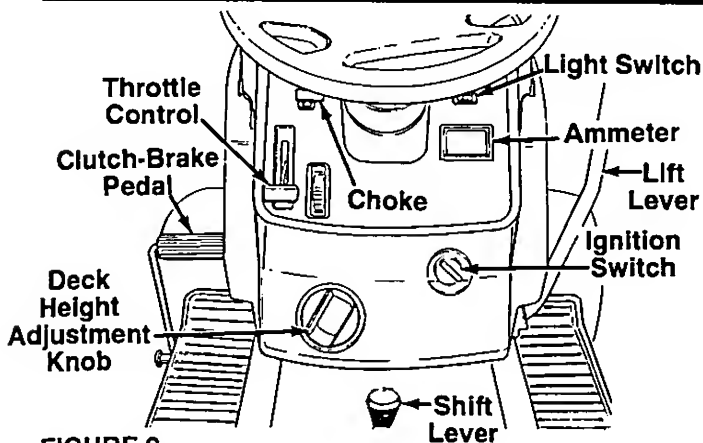

FIGURE 9.
The throttle control is used to regulate the engine speed. To get maximum efficiency from cutting, the throttle should be in the FAST position when operating the mower. See figure 9.
The choke control is located on the dashboard and is operated manually. Details for the choke operation are covered in the separate engine manual packed with your unit. See figure 9.
The shift lever is located in the center of the console and has three positions, FORWARD, NEUTRAL and REVERSE. See figure 9. The clutch-brake pedal must be depressed and the lawn tractor must not be moving when shifting gears. Do not force the shift lever. Release the clutch-brake pedal slightly to line up the shifting collar in the transmission. Then try to shift gears.
Turn the key to the START position to start the engine. When the engine is running, let the key return to the ON position. To stop the engine, turn the key to the left to the OFF position and remove it to prevent accidental starting. See figure 9.
The ammeter registers the rate of battery charge or discharge. The ammeter will register on the discharging side when starting the engine. It should register on the opposite side (charging) when the engine is running in the fast position until the battery is completely charged. With a fully charged battery or with the engine idling, the ammeter will not show a charge. See figure 9.
The clutch-brake pedal is located on the left side of the lawn tractor. Depressing the clutch-brake pedal part way disengages the clutch. Pressing the pedal all the way down disengages the clutch and engages the disc brake. See figure 9.
NOTE: The lift lever *must* be in the disengaged position when starting the engine, when shifting into reverse and if the operator leaves the seat. See figure 9.
3. Set the throttle control in the FAST position. See figure 9.
5. Turn the ignition key to the START position. When the engine is running, let the key return to the ON position. See figure 9.